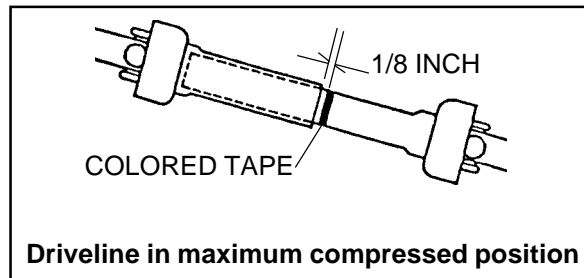

FIGURE 1. Driveline Length Check
- Apply colored tape to the Inner Shield 1/8" from the end of the Outer Shield. **Figure 1.**